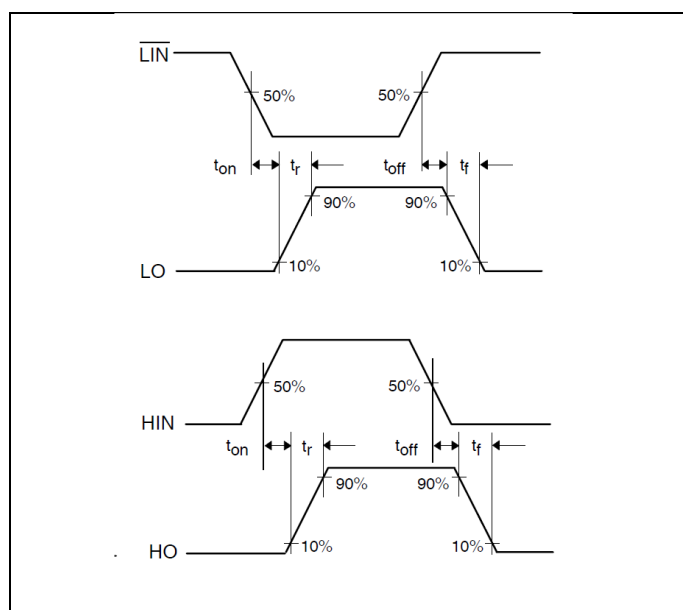
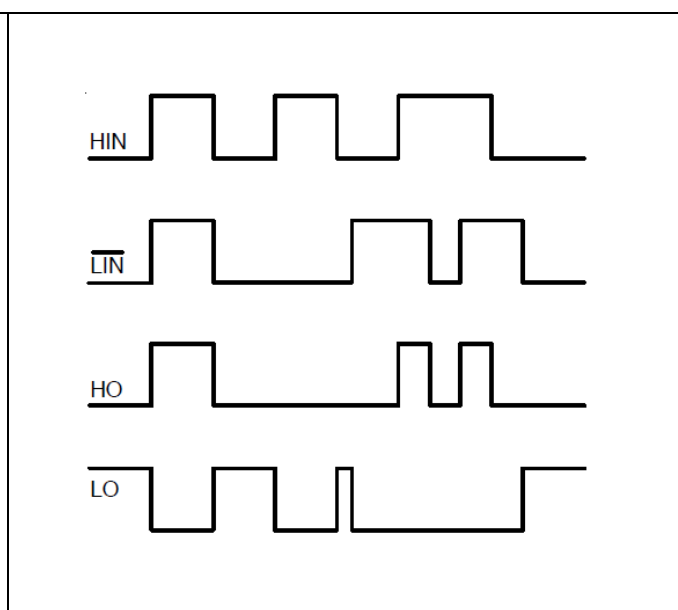

Figure 6 Switching timing diagram
Figure 7 Input/output logic diagram
The relationships between the input and output signals of the 2ED2108 (4) S06F (J) are illustrated below in Figure 6 and Figure 7. From these figures, we can see the definitions of several timing parameters (i.e. t_{ON} , t_{OFF} , t_R , and t_F) associated with this device.